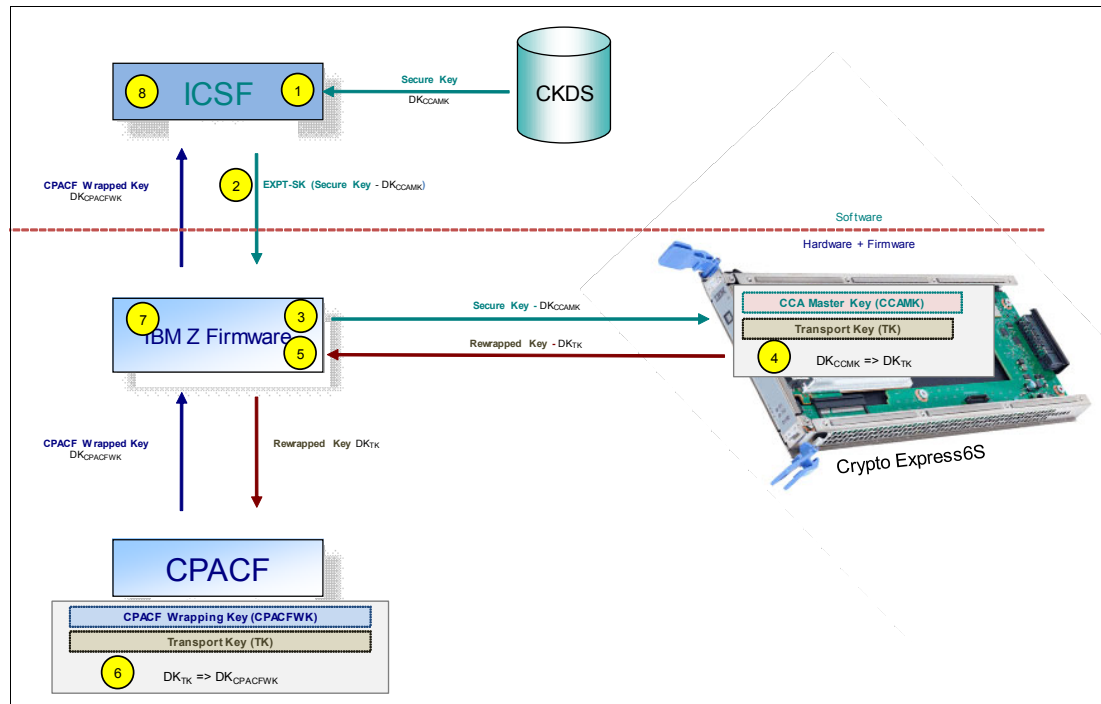

Figure 6-5 CPACF key wrapping with Crypto Express6S
Wrapping keys are generated during the clear reset each time an LPAR is activated or reset. No customizable option is available at Support Element (SE) or Hardware Management Console (HMC) that permits or avoids the wrapping key generation. This function flow is shown in Figure 6-5.
A new segment in the profiles of the CSFKEYS class in IBM RACF restricts which secure keys can be used as protected keys. By default, all secure keys are considered not eligible to be used as protected keys. The process that is shown in Figure 6-5 considers a secure key as being the source of a protected key.